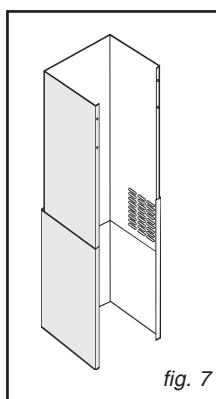

fig. 7
- For ducting hoods, turn the upper flue over so that the air exhaust grid is in the lower section (Fig. 7).